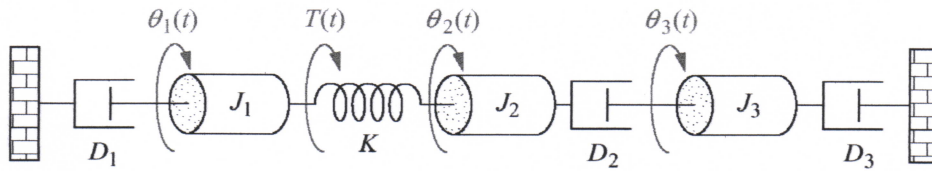

Figure Q2(b)
- (b) Determine the transfer function $\frac{\theta_3(s)}{T(s)}$ of the system shown in **Figure Q2(b)**. (10 marks)
- (c) A Direct Current (DC) motor is available for a speed control regulator and has the following properties: